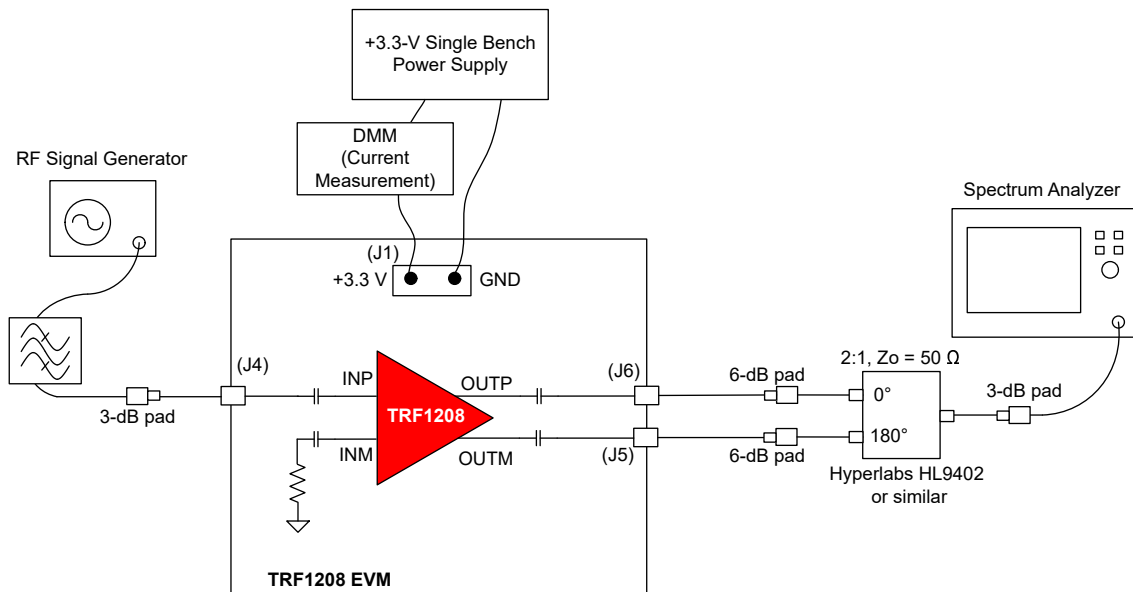

Figure 1-1. Single Tone Setup for Gain and Output P1dB
This section provides general usage information for the TRF1208 EVM. See Figure 1-1 for a general single tone setup diagram as a reference point for the following instructions (some components, such as supply bypass capacitors, are omitted for clarity):
When measuring single tone distortion, use an RF band pass filter as shown in Figure 1-1.
- e. When connecting to a spectrum analyzer, the differential signal out of the EVM should be converted to a single-ended signal using an external passive balun as shown in Figure 1-1.